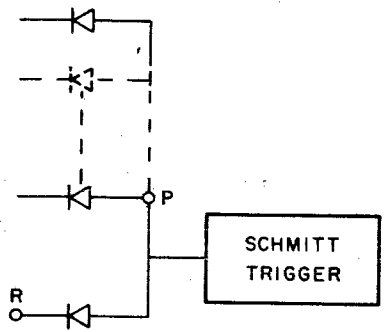

Figure 1. NANDed Input
**Direct:** — Pin P provides a bypass of the diode connected at pin R. This node input can be used with R001 diodes to form a NANDed input to the W501 as shown in Fig. 1 below. In addition, this input can be used to obtain an integrated input when many contacts or switches are connected as shown in Fig. 2 below. This latter scheme gives an output rise when contacts close.